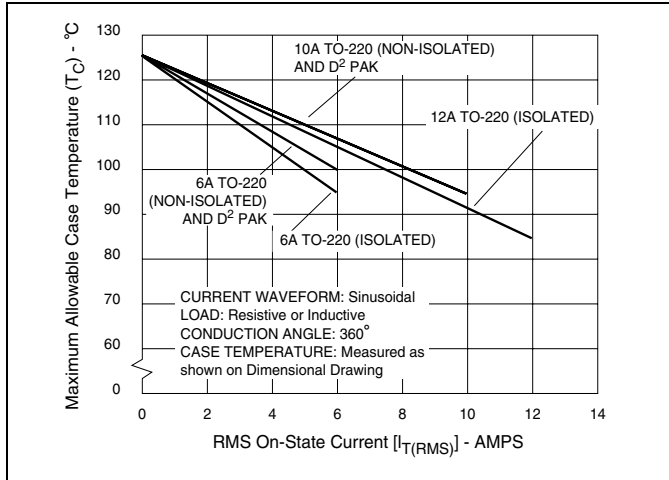
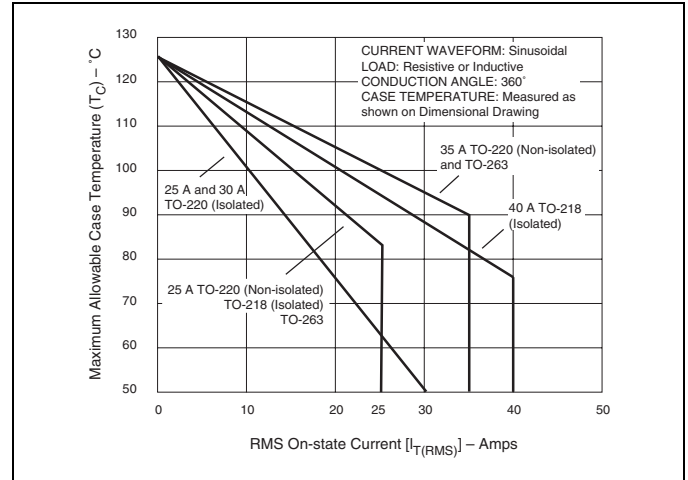
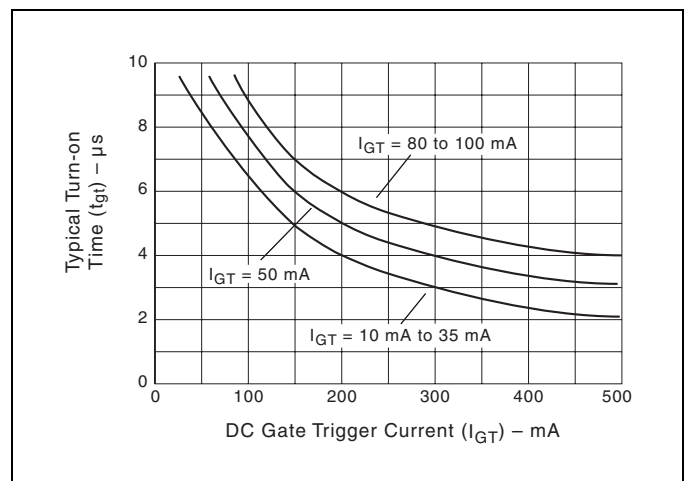

Figure E4.1 Maximum Allowable Case Temperature versus On-state Current (6 A to 12 A)
Figure E4.4 Maximum Allowable Case Temperature versus On-state Current (25 A to 40 A)
Figure E4.12 Turn-on Time versus Gate Trigger Current (Typical)
- See Figure E4.1 through Figure E4.4 for current rating at specific operating temperature and Figure 4.16 for free air rating (no heat sink).
- (10) See Figure E4.12 for  $t_{GT}$  versus  $I_{GT}$ .
- (11) See package outlines for lead form configurations. When ordering special lead forming, add type number as suffix to part number.
- (12) Initial on-state current = 400 mA dc for 16 A to 40 A devices and 100 mA for 6 A to 12 A devices.
- (13) See Figure E4.1 through Figure E4.4 for maximum allowable case temperature at maximum rated current.
- (14) Pulse width  $\leq 10 \mu s$ ;  $I_{GT} \leq I_{GTM}$
- (15) For 6 A to 12 A devices,  $R_L = 60 \Omega$ ; 16 A and above,  $R_L = 30 \Omega$
- (16) 40 A pin terminal leads on K package can run 100 °C to 125 °C.
- (17) Alternistor does not turn on in Quadrant IV.
- (18)  $T_C = T_J$  for test conditions in off state
- (19)  $I_{GT} = 200 \text{ mA}$  for 6 A to 12 A devices and 500 mA for 16 A to 40 A devices with gate pulse having rise time of  $\leq 0.1 \mu s$ .
- (20) Minimum non-trigger  $V_{GT}$  at 125 °C is 0.2 V.